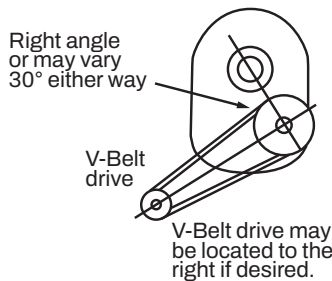

Figure 3
5. Install motor and V-belt drive so belt pull will approximately be at right angles to the center line between driven and input shaft as shown in Figure 3. This will permit tightening the V-belt drive with the Torque-Arm.